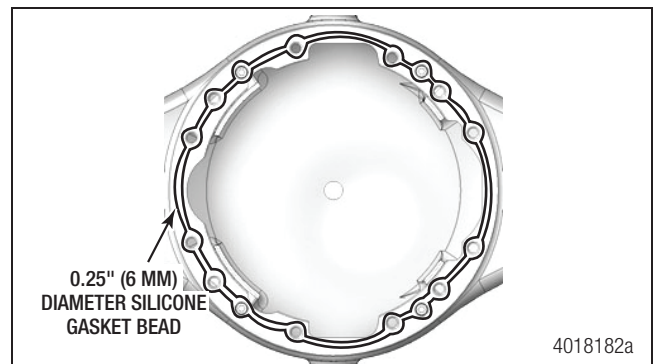

Figure 3
6. Apply a 0.25" (6 mm) continuous bead of silicone gasket material to the mounting surface of the housing where the carrier fastens. Figure 3.